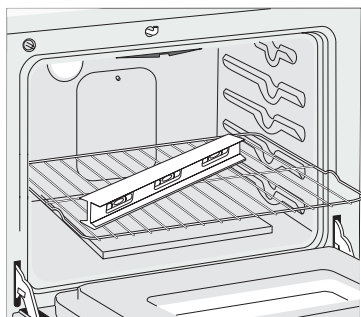

Figure 6
2. Place a level on the rack (see Figure 6). Take 2 readings with the level placed diagonally in one direction and then the other. Level the range, if necessary, by adjusting the 4 leg levelers with a wrench (see Figure 14).